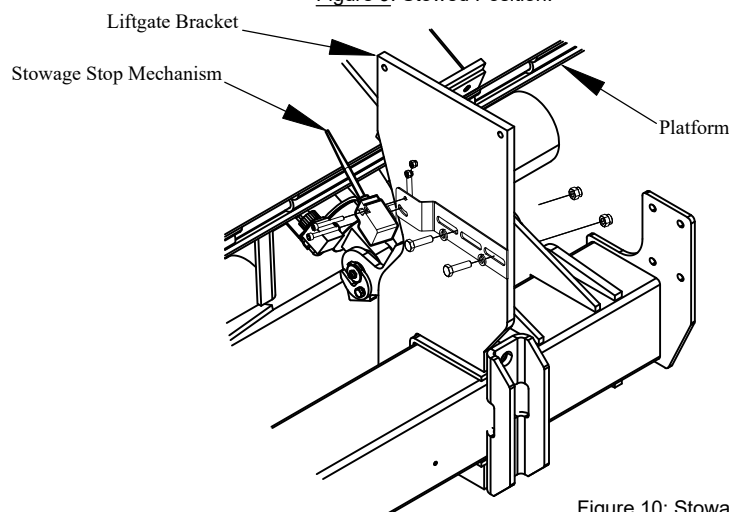

Figure 10: Stowage Stop mechanism.
- Step 2. **Position** the Stowage Stop mechanism and it's bracket in a position where the tip of the sensor will be in contact with the aluminum platform, on the inside portion of the liftgate bracket (Figure 10). This can be done on either the right or left side liftgate bracket.
- Step 4. **Bolt** the Stowage Stop mechanism to its bracket using the 2x M5 bolts and nuts provided in the Stowage Stop mechanism bag (Figure 10).